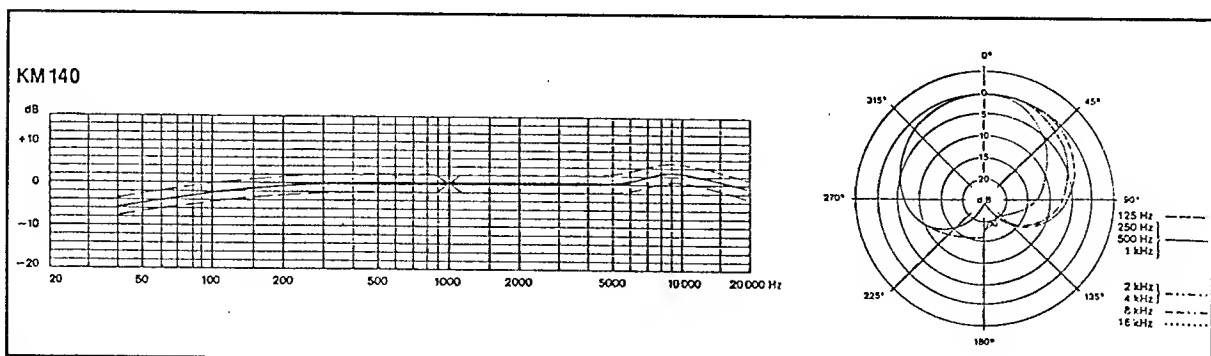

Fig. 6 Microphone with AK 40 cardioid capsule
- b) The pressure gradient receiver with cardioid polar pattern displays very even frequency curves parallel to the sound incidence angle 0°. Consequently, sound over a pick-up angle of  $\pm 135^\circ$  is reproduced without any colouration, and the microphone has a level frequency response in either free or diffused field. Its sound character is therefore unaffected by the critical distance of the recording premises (Fig. 6). As a pressure gradient receiver, this capsule has the property of lending a lift to the bass range of very close-proximity sounds ("Proximity Effect" [1]). As a result, when it is used for speech or song the slightest differences in spacing become audible parts of the sound pattern and lend a lifelike presence to the performance.